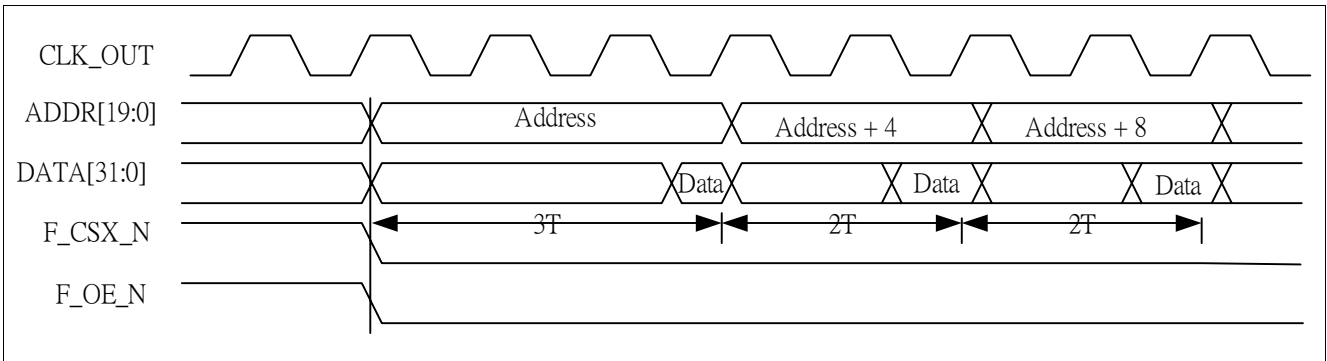

Figure 8 Asynchronous Page Mode Read with 2 Wait State and 1 Sequential Wait State
- The MPMC supports asynchronous page mode read up to four memory transfers by updating address bits A[1] and A[0]. This feature increases the bandwidth by using a reduced access time for the read accesses that are in page mode. The first read access takes **MPMC Static Wait Rd 1** and WAITRD cycles. Subsequent read accesses that are in page mode take **MPMC Static Wait Page 1** and WAITPAGE cycles. The chip select and output enable lines are held during the burst, and only the lower two address bits change between subsequent accesses. At the end of the burst the chip select and output enable lines are deasserted together. The **Figure 8** shows the page mode read with 2 WAITRD cycles and 1 WAITPAGE cycle.